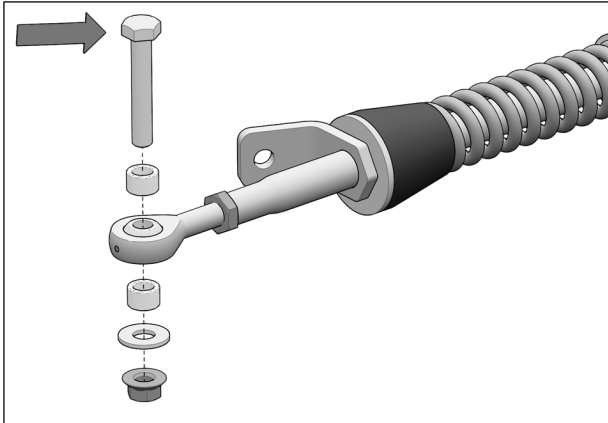

Fig. 18
3. Remove bolts, nuts, washers and bushings from front stabilizing rod ends as shown in Fig. 18